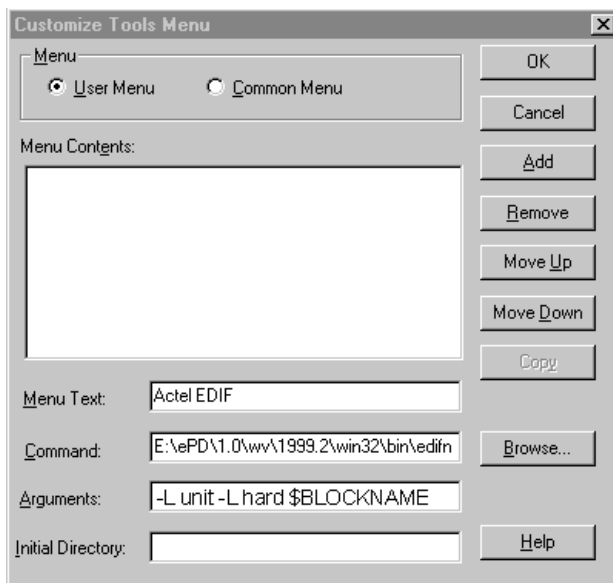

Figure 1-1. Customize Tools Menu Dialog Box
3. **Add the Actel EDIF command.** Click the User Menu radio button. In the Menu Text box, type “Actel EDIF.” In the Command box, type or use the Browse button to select: “c:\ePD\1.0\wv\1999.2\win32\bin\edifneto.exe.” In the Arguments box, type “-L unit -L hard \$BLOCKNAME.” Click OK. Figure 1-1 shows the configured Customize Tools Menu dialog box.